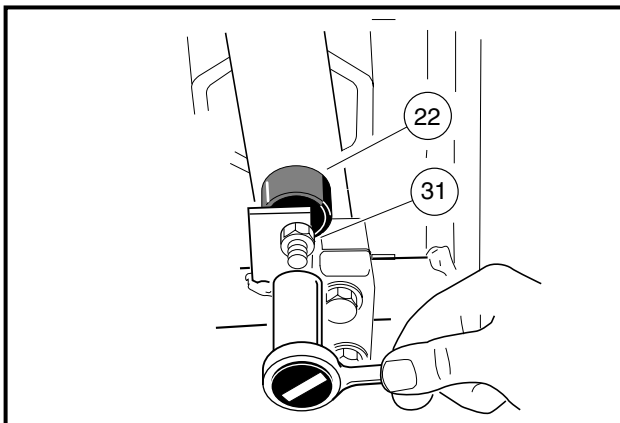
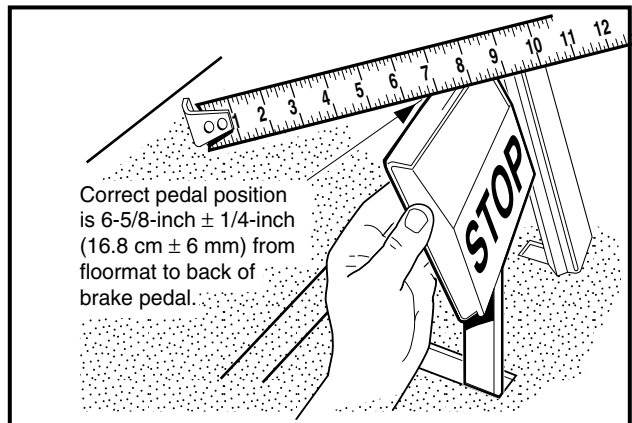

Figure 5-4 Adjust Brake Pedal Height
Figure 5-5 Measure Brake Pedal Height
3. Loosen, but do not remove, the brake stop jam nut (31) (Figure 5-4, Page 5-3).
4. Pull the brake pedal toward the rear of the vehicle until the brake stop bumper will not allow the pedal to travel any further (Figure 5-5, Page 5-3).
6. Adjust the brake stop bumper (22) up to decrease the distance between the pedal and the floorboard, or down to increase (Figure 5-4, Page 5-3). Proper brake pedal height is 6-5/8 inches  $\pm$  1/4-inch (16.8 cm  $\pm$  6 mm) (Figure 5-5, Page 5-3).
7. Tighten the jam nut (31) to 8 ft-lb (9.5 N·m) (Figure 5-4, Page 5-3).